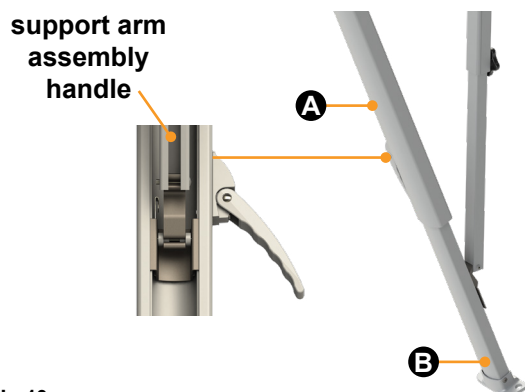

Fig.13
- A. Open the outer arm handle (Fig.13) and slide the outer arm upper channel #1 (Fig.13A) up or down to the desired height.